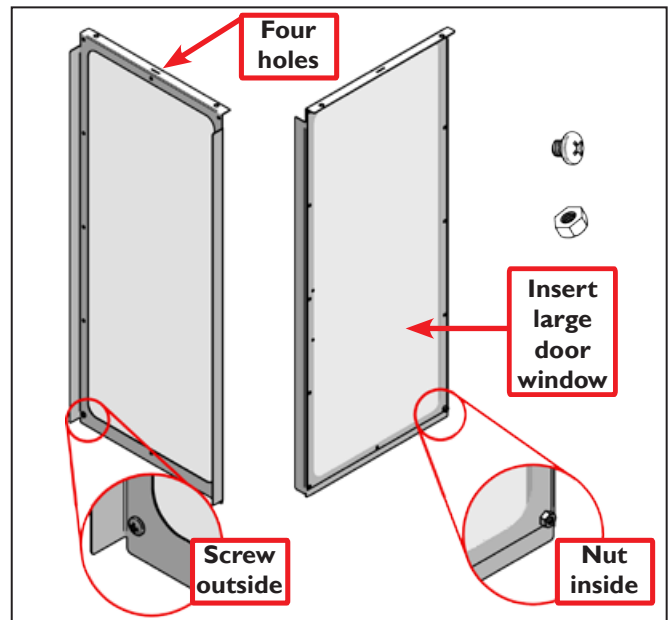

Figure 26
71. Place Large Door Window (E.12;Tormach PN 34433) inside the D4 Door Frame (E.8) and fasten with (C) screws and (D) nuts as seen in **Figure 26**.